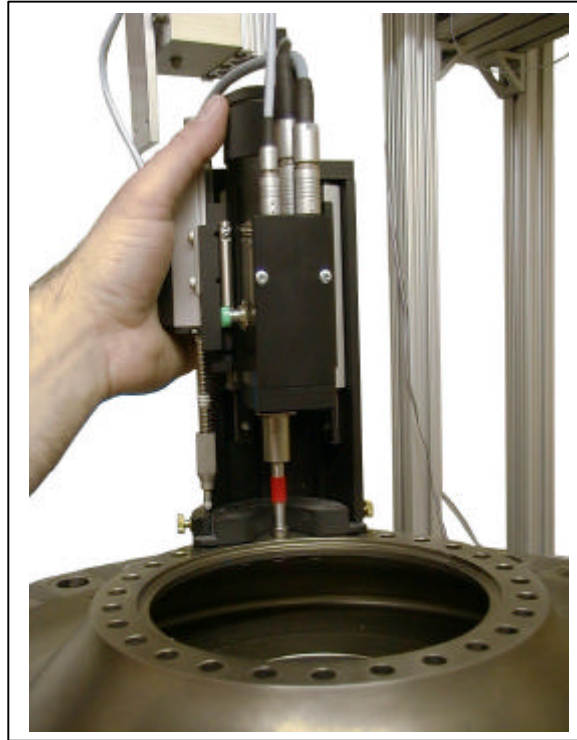

Fig. 5 Eddy current inspection of bolt holes
6. Retract the probe and place the guide fixture on the disk to be inspected. Inspect each hole as per the NDT procedure (fig. 5).